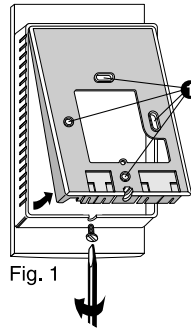

Fig. 1
Once separated from the case, the support must be fixed to the wall with screws and plugs or on a flush-mounting box (distance between centres 60 mm) using the holes ❶ shown (Figure 1).